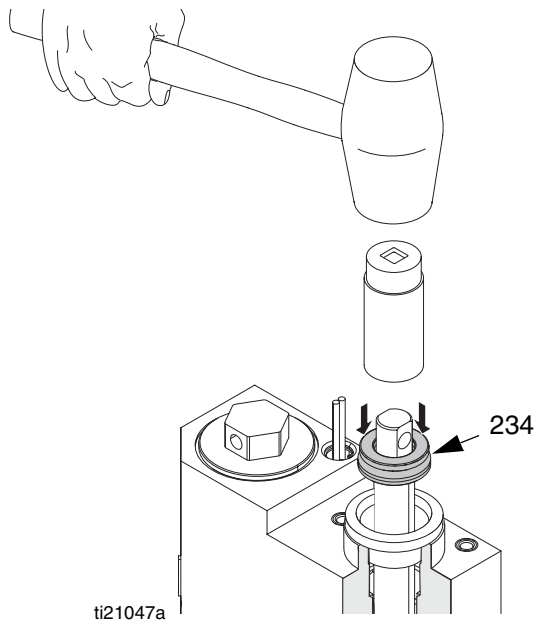

FIG. 33
3. Push the piston rod assembly (223) into the melter outlet manifold (203).
4. Grease the throat u-cup (234) and slide the u-cup over the piston rod (223) with the lips facing down.
5. Place a 7/8 in. deep-well socket (3/8 in. drive) over the piston rod (223) then use a rubber mallet to gently tap throat u-cup (234) into place. See FIG. 33.